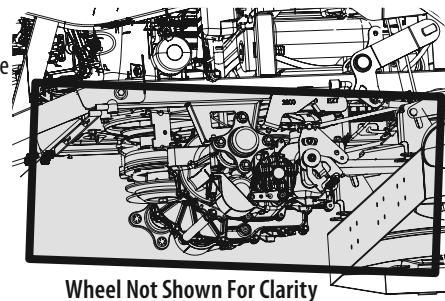

Figure 32
- Clean around and near the transmission, axle and the fan area. Figure 32.